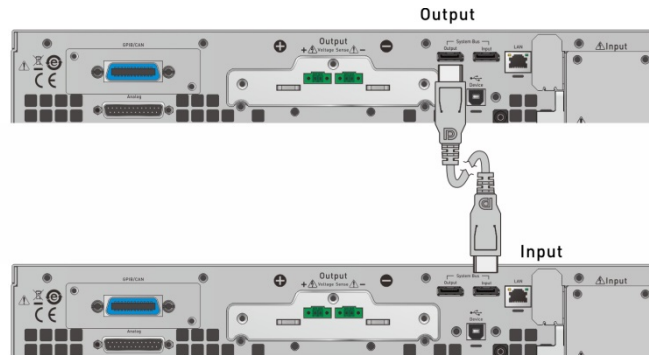
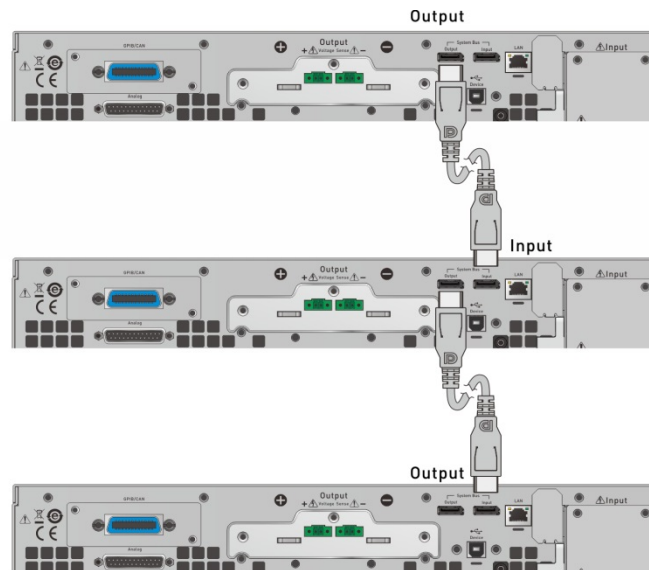

Figure 3-53
Figure 3-54
1. When two DC power supplies are connected in series or parallel, the DisplayPort connector on the rear panel must be connected as shown in Figure 3-53.
2. When three DC power supplies are connected in series or parallel for operation, the DisplayPort connector on the rear panel must be connected as shown in Figure 3-54.
Each D-series supply has two DisplayPort female sockets. They need to be connected no matter if the connection is in series or parallel. There is no difference between left and right connection ports but connected in series as shown in Figure 3-53 or Figure 3-54. The communication cable has a limit of 5 meters for length, do not exceed this limit to avoid unstable signal. The DisplayPort communication cable connected to the last DC power supply does not connect back to the first DC power supply.